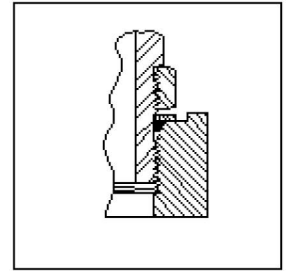

Fig.A7 Screw stud into port until washer bottoms out on port face
4. Screw stud into the O-ring port until the washer fully bottoms out on face of the port. See Fig.A7.